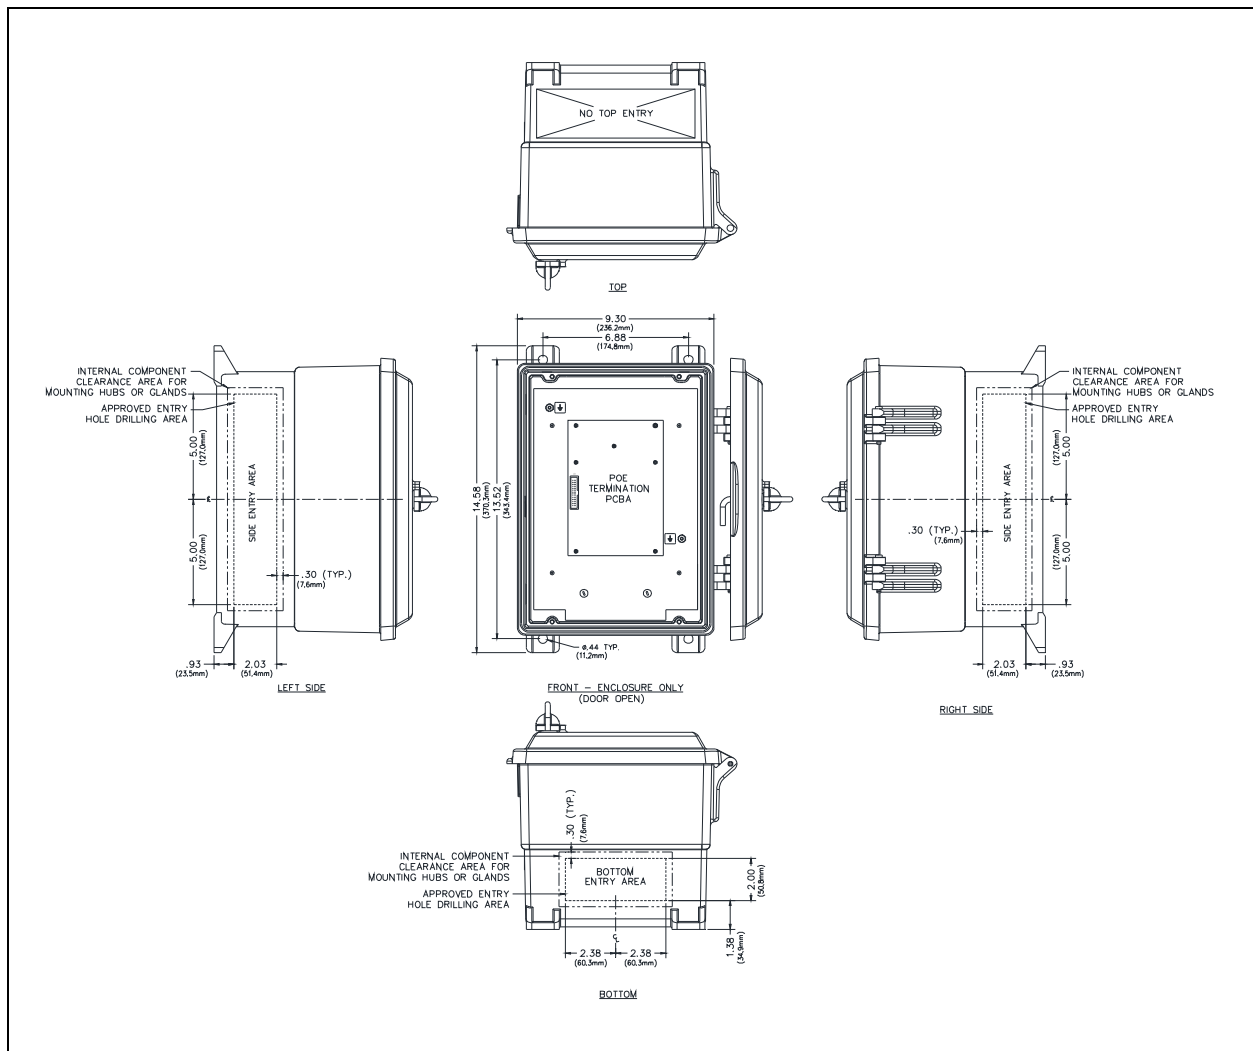

Figure 2. Suggested Wire Entry Locations
1. Mount the enclosure using the four 0.437-inch (11 mm) diameter holes located on the mounting flanges with 3/8-inch (M8) hardware (see Figure 2).
3. Drill or punch entry openings in the rear section of the enclosure (see Figure 2).